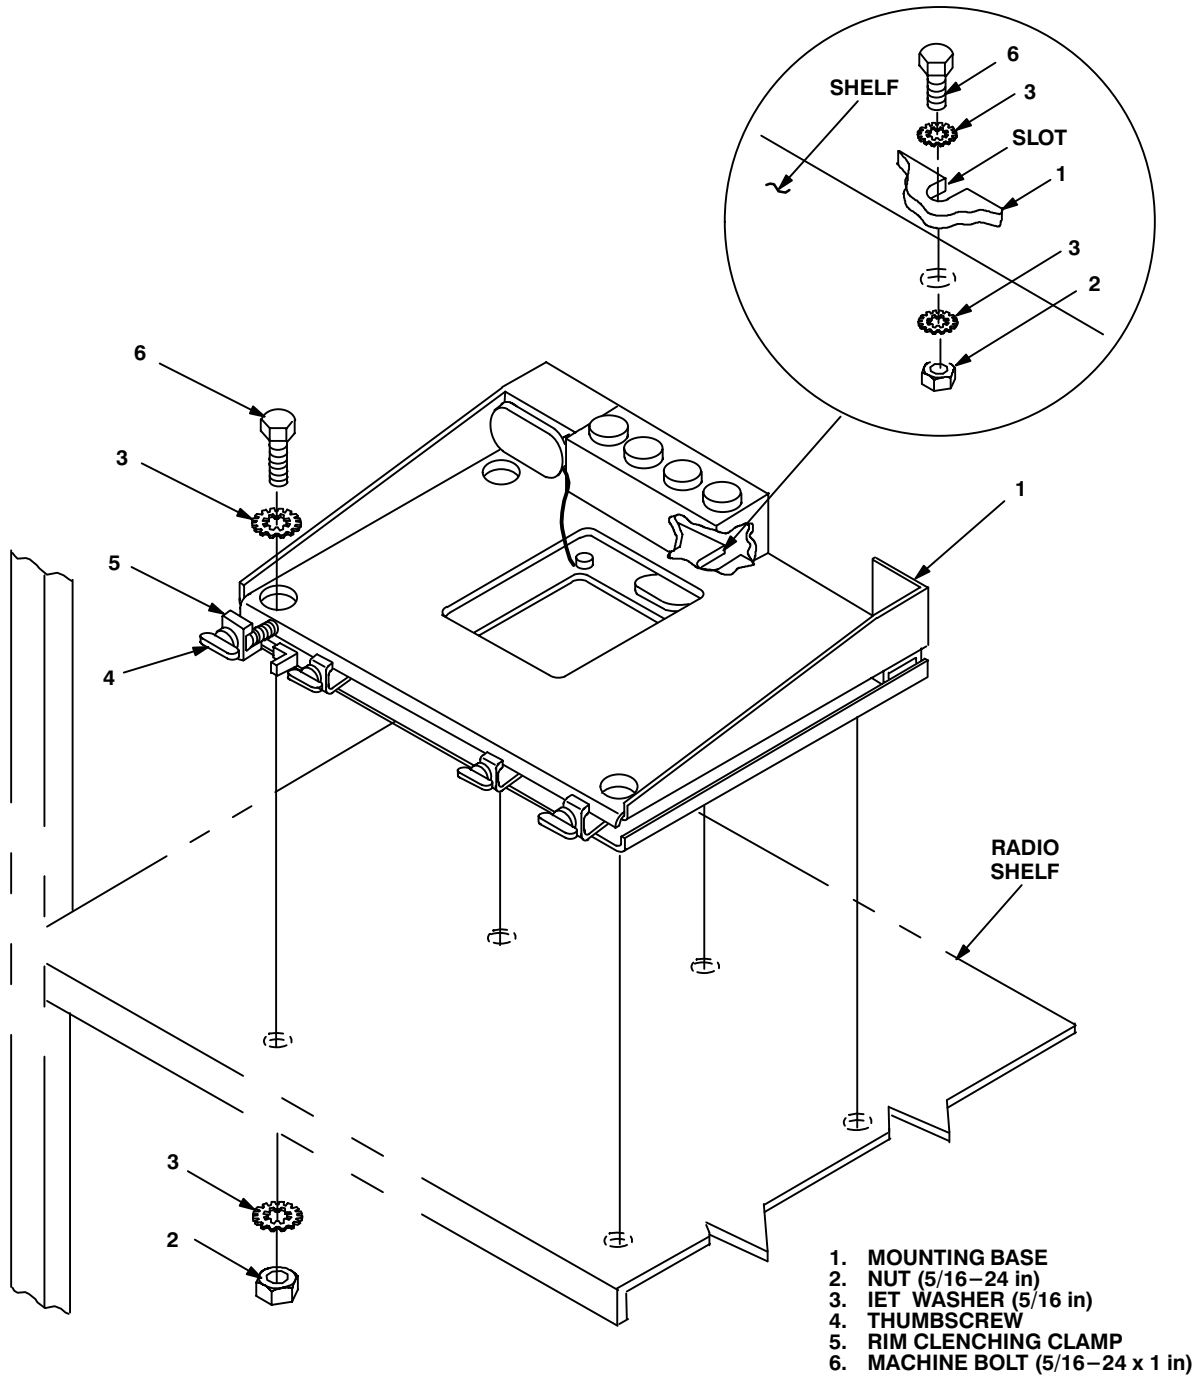

Figure 5-5. Mounting Base Installation: Communications Rack
5.3 Installation of Mounting Base, Electrical Equipment MT-6352/VRC (mounting base). Remove and retain attaching bag of 5/16 in mounting hardware for installation. To insure good electrical grounding, any rust, corrosion or paint around mounting holes in radio shelf should be removed before installing the mounting base. See figure 5-1 for location; then see figure 5-5 and perform the following steps.